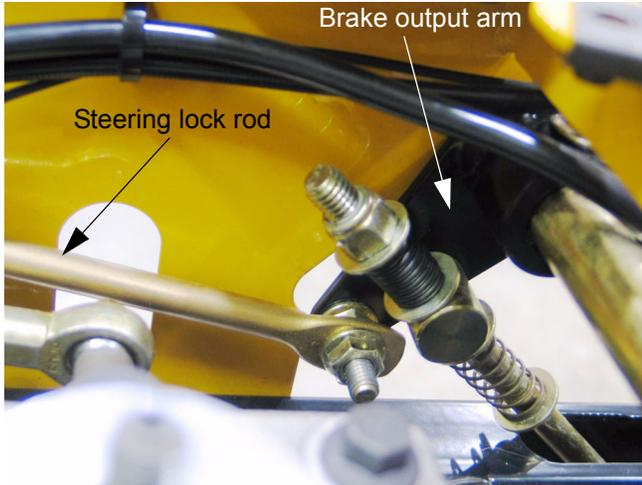

Figure 21.31
21.31. The interlock is actuated by two steering lock rods; one for each steering pivot plate. The steering lock rods extend forward from the output arms on each end of the brake pivot shaft. See Figure 21.31.